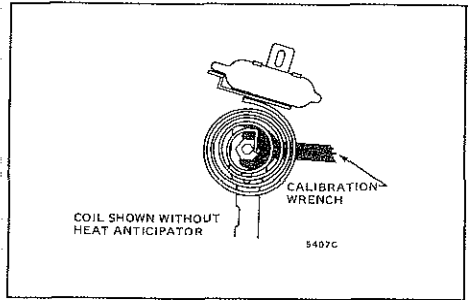

Fig. 5—Recalibration procedure.
2. Insert 198751 calibration wrench onto the hex nut under the coil (Fig. 5). Holding the setting lever so it does not move, turn the wrench clockwise  until the mercury drops to the right end of the tube. Remove wrench and replace cover.